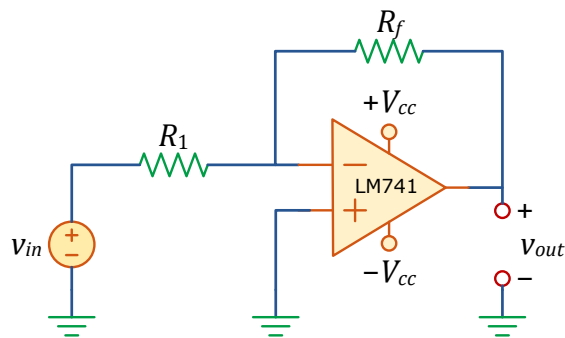

Figure 6.2: Inverting amplifier circuit with Op Amp.
- 5 Derive the gain (ratio of v_{out} to v_{in}) for the **inverting amplifier** circuit of Figure 6.2 using nodal analysis.
- 6** For the inverting amplifier shown in Figure 6.2, what would happen under the following conditions?